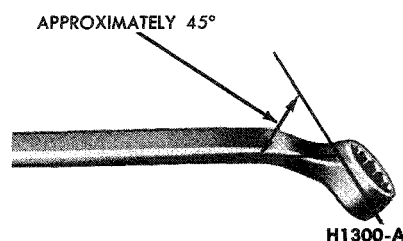

FIG. 1—Wrench for Bleeding Brake
1. Position a bent $\frac{3}{8}$ -inch box wrench on the bleeder fitting on the right wheel cylinder (Fig. 1). Attach a rubber drain tube to the bleeder fitting. **The end of the tube should fit snugly around the bleeder fitting.**
3. Position a $\frac{3}{8}$ -inch box wrench on the bleeder fitting on the right rear brake wheel cylinder (Fig. 1). Attach a rubber drain tube to the bleeder fitting. **The end of the tube should fit snugly around the bleeder fitting.**